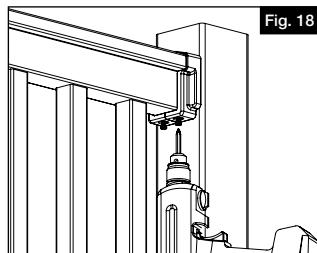

Fig. 18
- d. While tightly squeezing the bracket cover closed, pre-drill using a $\frac{1}{8}$ " drill bit through the two holes underneath. Then, drive two #10 x 1" square drive screws through the cover, metal bracket and into the top rail (Fig 18).